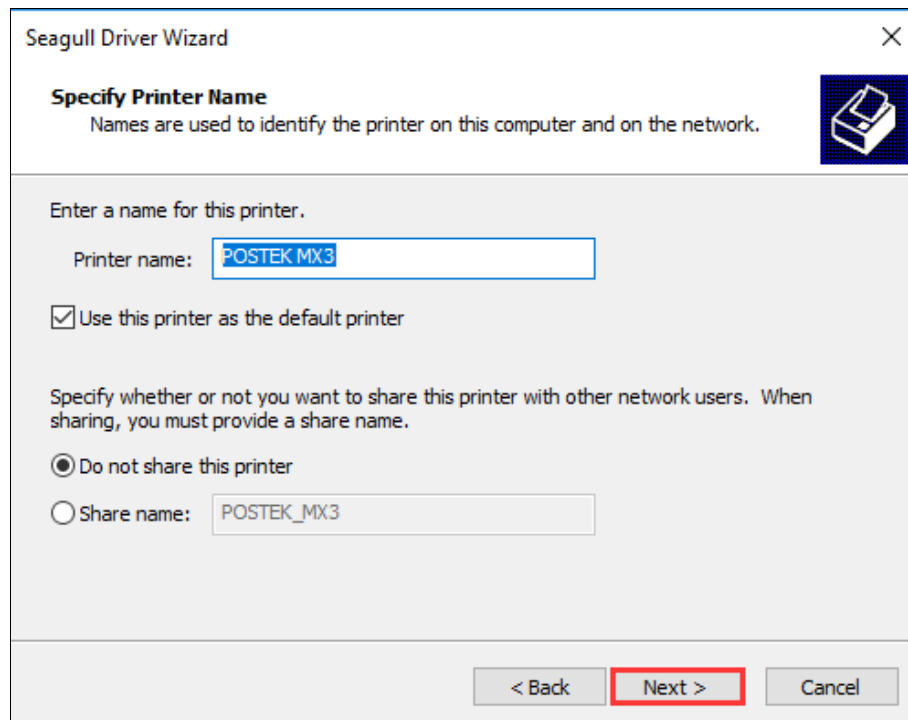

Figure 2-47 Specify Printer Name
- On the “Specify Printer Name” screen, enter a name for the printer, as shown in Figure 2-47. Click “Next” to complete the driver installation.